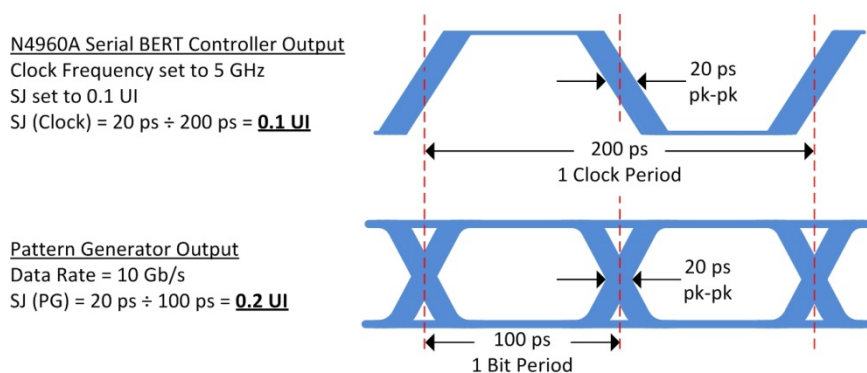

Figure 25. Jitter relationship
**Figure 25** illustrates the jittered clock output from the N4960A serial BERT controller relative to the jittered output of a pattern generator connected to the Jitter port. Note that one clock period corresponds to two bit periods. With SJ amplitude set to 0.1 UI in the N4960A serial BERT controller, the SJ amplitude of the pattern generator will be set to 0.2 UI automatically. Conversely, if the SJ amplitude of the pattern generator is set to 0.2 UI, the SJ amplitude of the N4960A serial BERT controller will be set to 0.1 UI automatically.